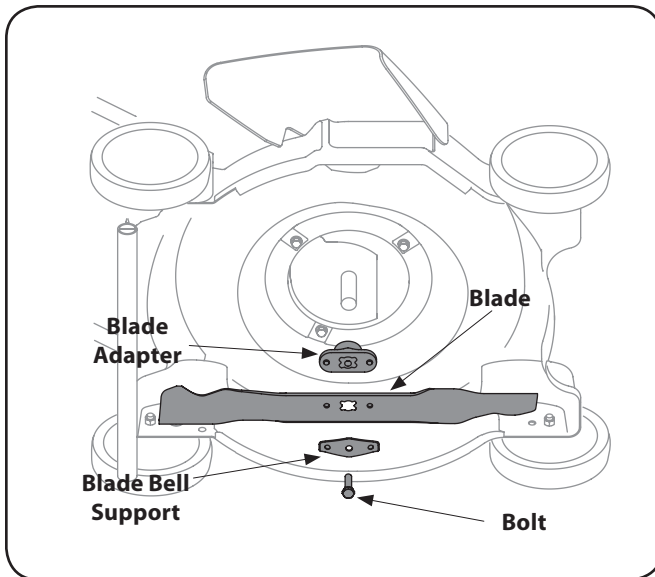

Figure 7-1
2. Remove the bolt and the blade bell support which hold the blade and the blade adapter to the engine crankshaft. See Fig. 7-1.
3. Remove blade and adapter from the crankshaft. See Fig. 7-1.